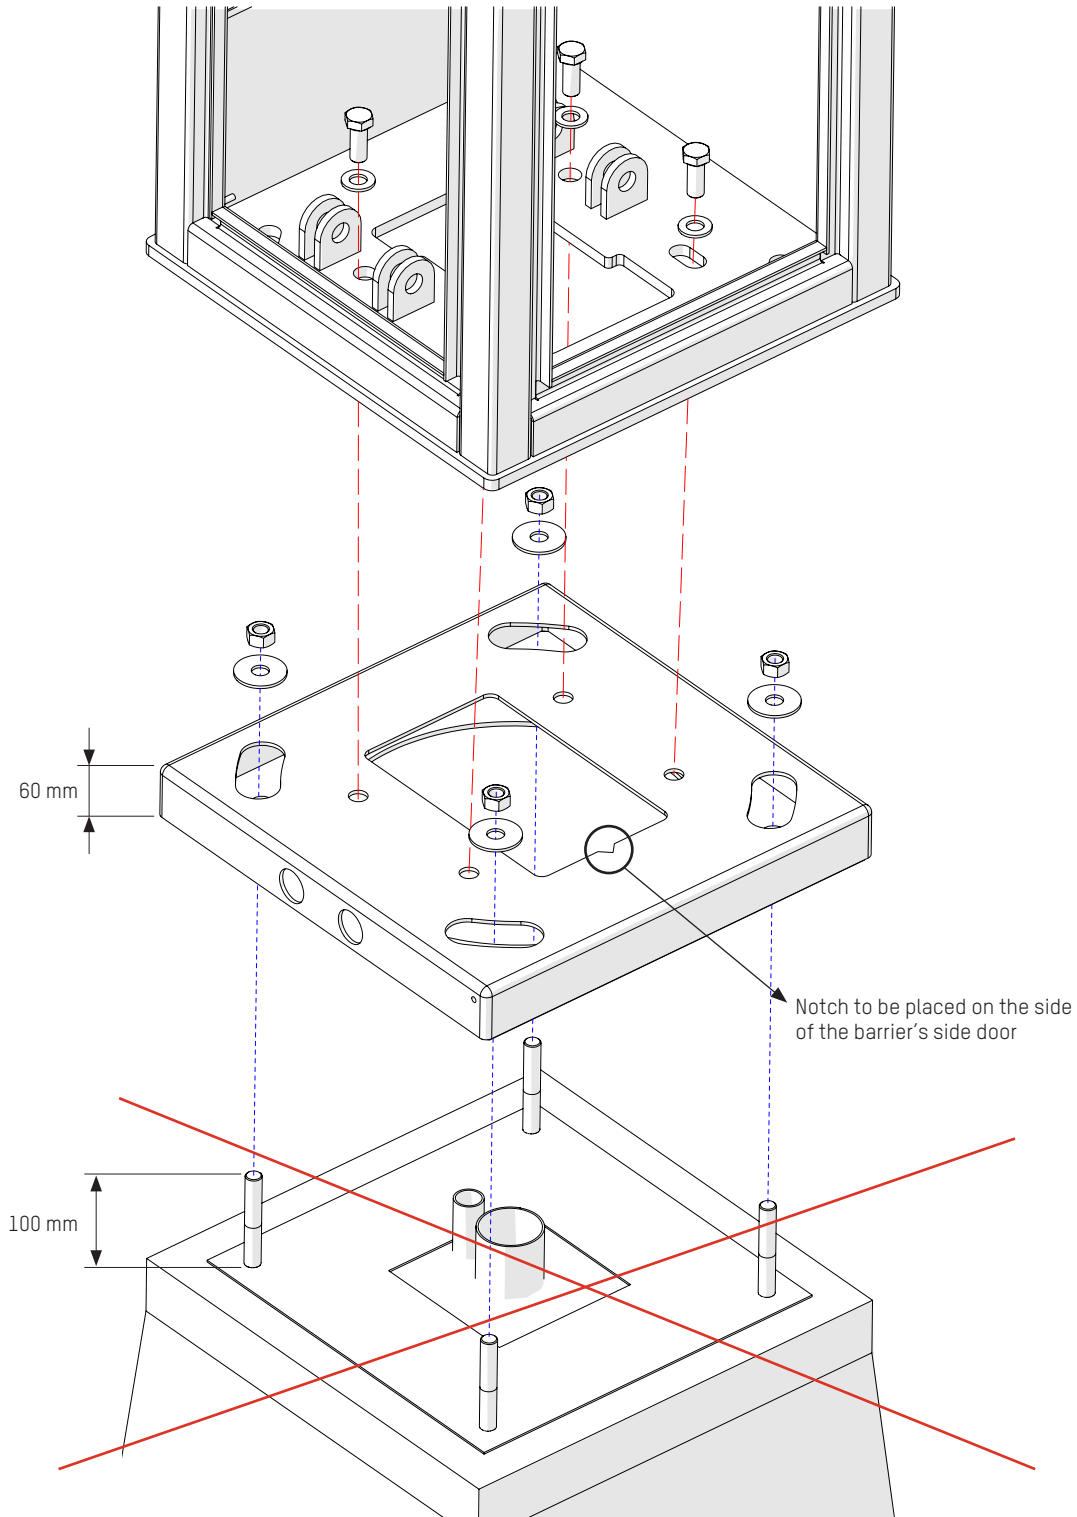

Fig. 17 - Installation of the raised base
2. Check the orientation of the base with respect to the barrier (position of the notch, ⇒ Fig. 17).